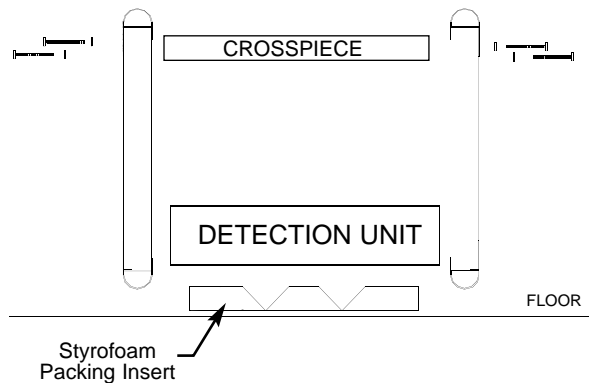

Figure 3-4
6. Use the four remaining screws and washers to attach the crosspiece to the two panels as shown in Figure 3-4.